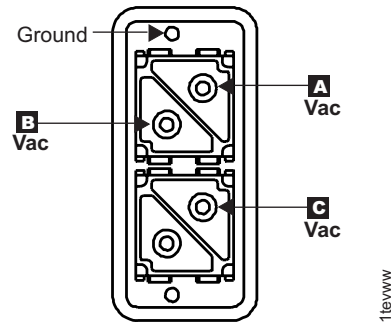

Figure 42. Mainline power cable connector
1. Prepare the multimeter to measure 1.0 V ac or less. Measure the voltage on the female ground pin on each mainline power cable and building ground. Refer to Figure 42 on page 45.